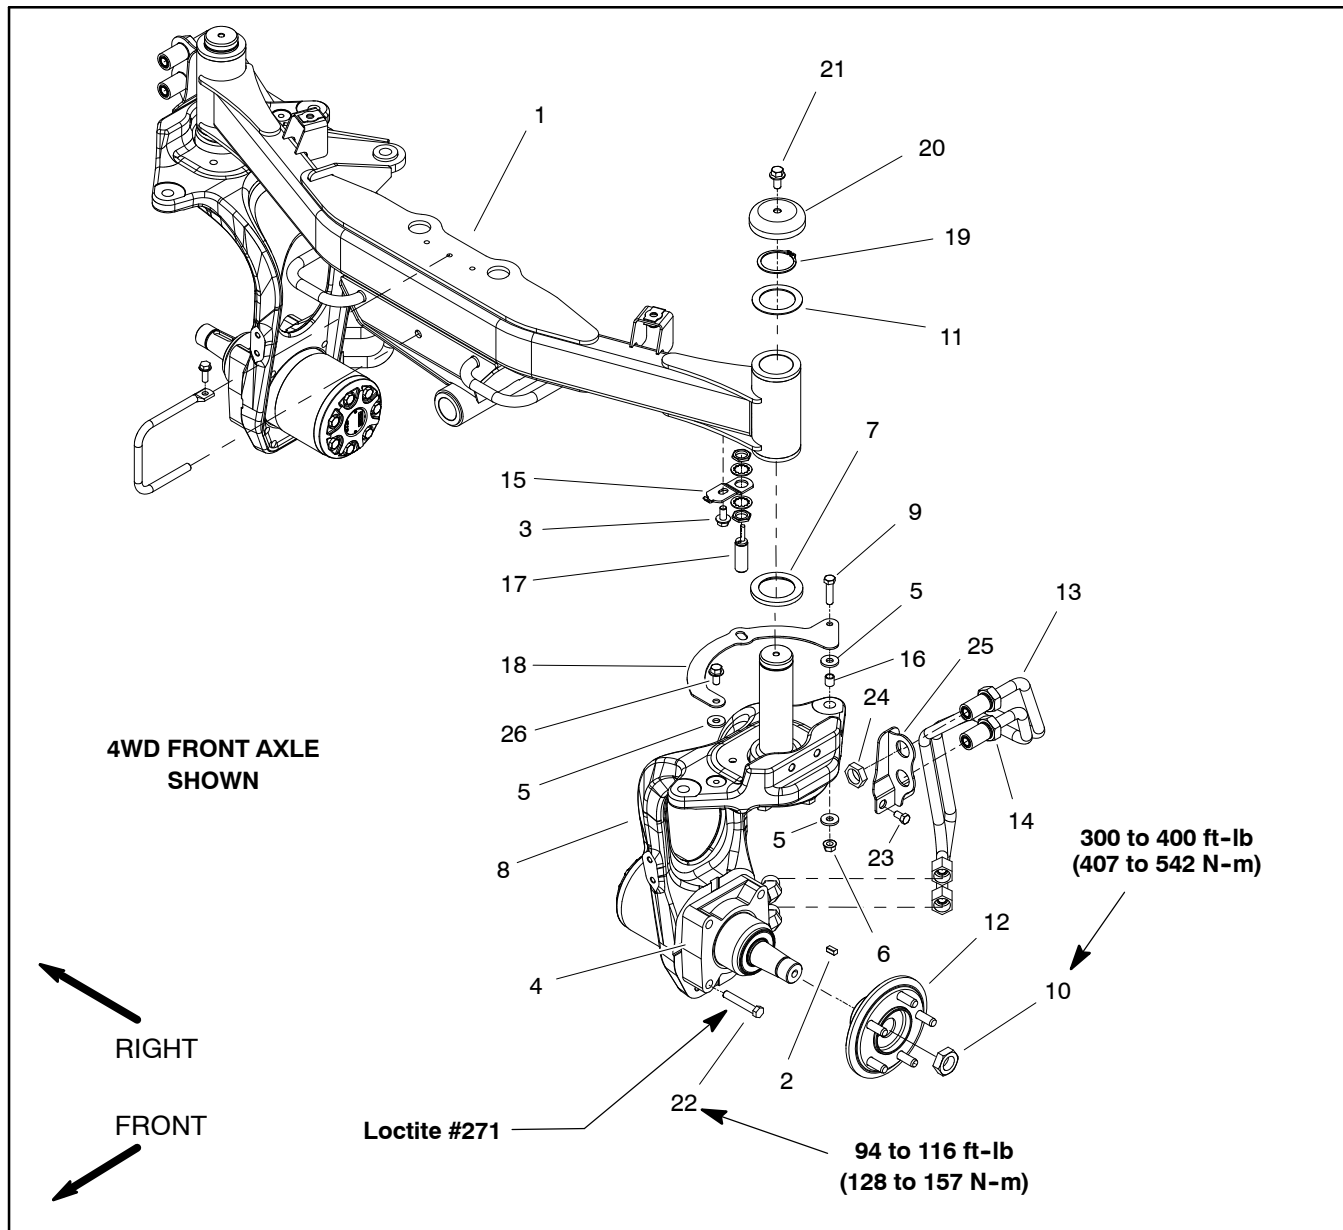

Figure 23
**NOTE:** The front steering fork assemblies on 4WD machines include a wheel motor. The left front fork on 4WD machines (shown in Fig. 23) also includes a proximity sensor used by the TEC controller to determine when the front wheel is turned.
## Removal (Fig. 23)
## Installation (Fig. 23)